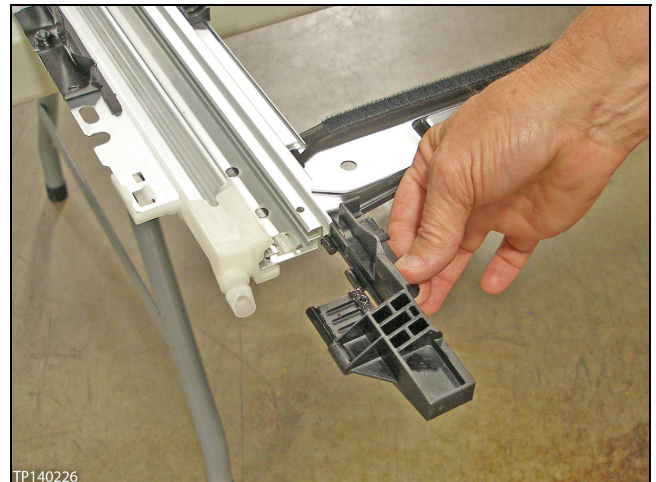

Figure 9
1. Install both shade bases (see Figure 9).